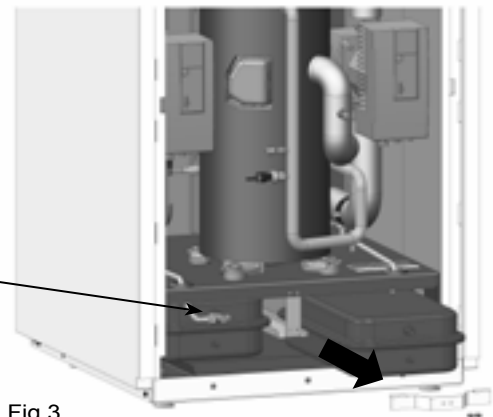

Fig.3
- 4 - Slide the expansion vessels towards you (Fig.3).